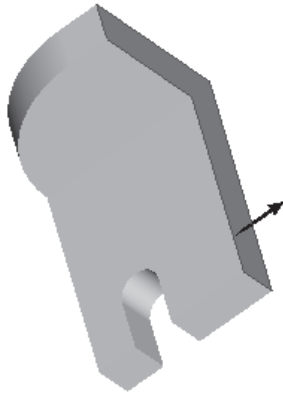

Figure 4-82 Arrow showing the direction of viewing the model
- Create the third and fourth features on the same plane, but with different extrusion depths, refer to Figures 4-82 through 4-89.
3. Using the middle mouse button, spin the model and select the face of the base feature shown in Figure 4-82 as the sketching plane. A yellow arrow is displayed on the selected face.
4. Choose the **Flip** button to flip the yellow arrow, as shown in Figure 4-82. The arrow points in the direction of viewing the sketching plane.